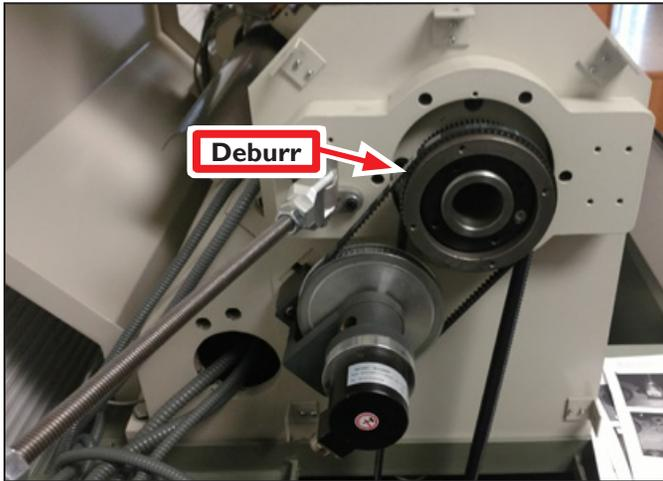

Figure 7
7. Using machinist's stone or similar, lightly stone the back of the Index Ring/Adapter assembly and the face of the spindle pulley (see **Figure 7**) to remove burrs. Presence of burrs may cause runout.
Runout on Index Ring/Adapter	Ensure both sides of Index Ring/Adapter assembly are free of debris (see Figure 7 ).